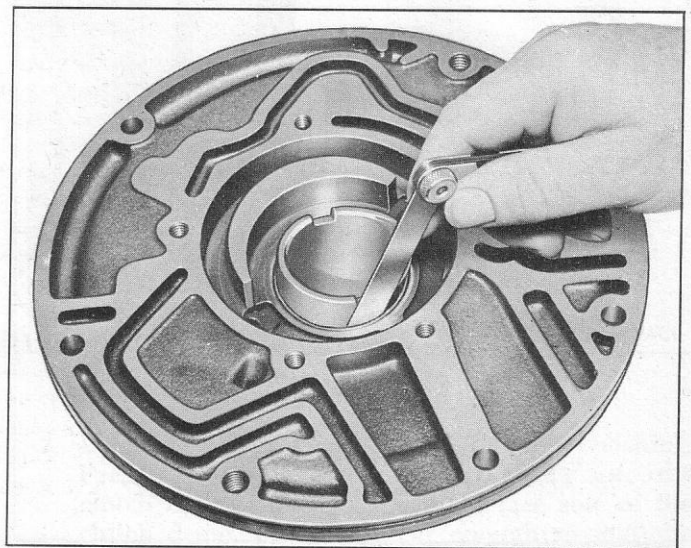

Fig. 23—Checking Pump Body Bushing to Converter Pump Hub Clearance
5. Inspect body bushing for galling or scoring. Check clearance between body bushing and converter pump hub (fig. 23). Maximum clearance is .005". If the bushing is damaged, the front pump body should be replaced.